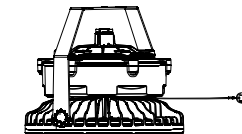

Figure 15
3. Tighten the wire rope (figure 15).